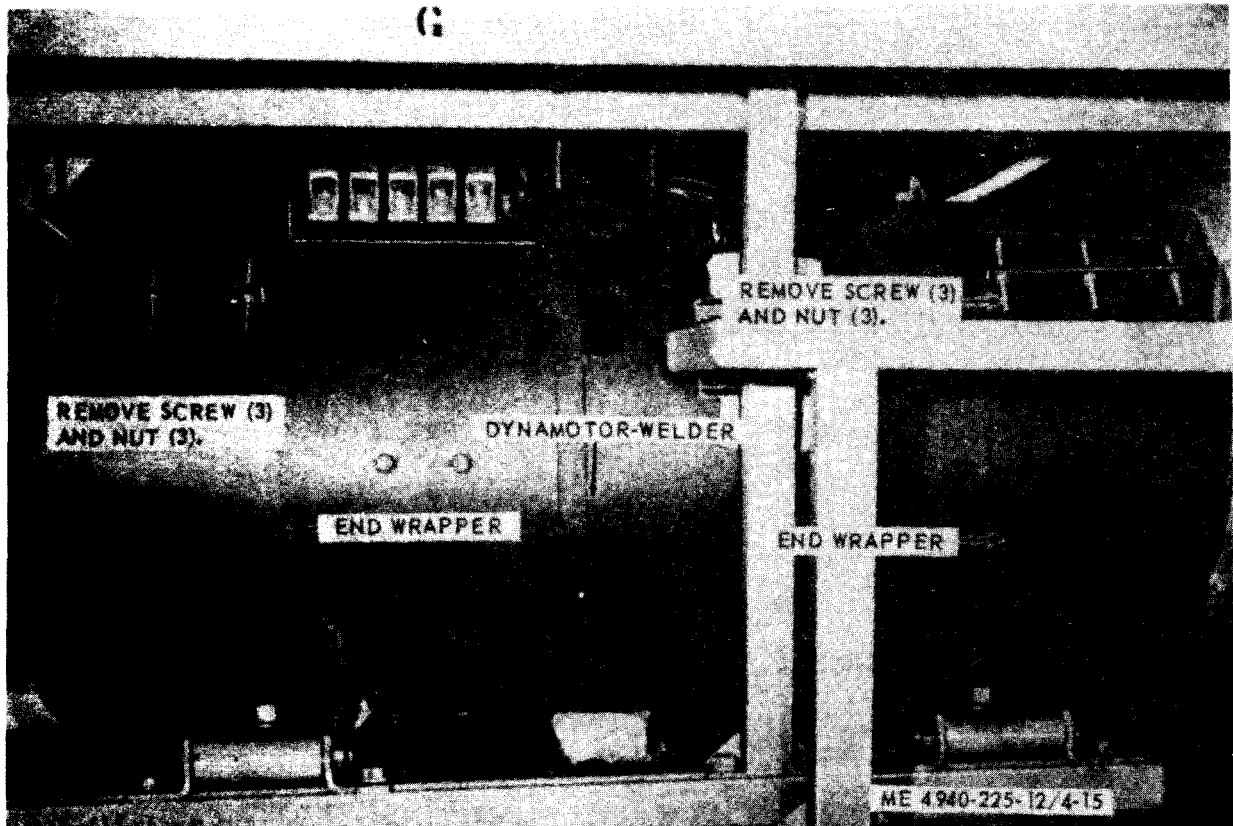

Figure 4-15. Dynamotor-welder end wrappers, removal and installation.
a. *Removal.* Remove the end wrappers as illustrated in figure 4-15.
(1) Clean end wrappers in cleaning solvent and dry thoroughly.
(2) Inspect for defects and damage and for loose or defective hardware, and replace defective parts as necessary.
c. *Installation.* Install the end wrappers as illustrated in figure 4-15.